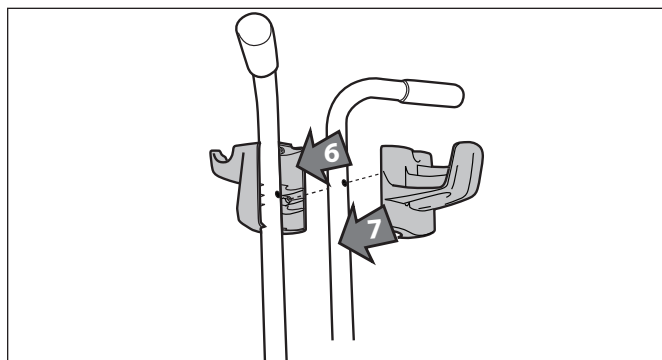

Figure 6. Position the Bottom Power Cable Hook
- Position the power cable hook and control unit hook on the upper tubes as shown in Figure 6. Make sure the upper tubes (handles) are in the proper orientation.